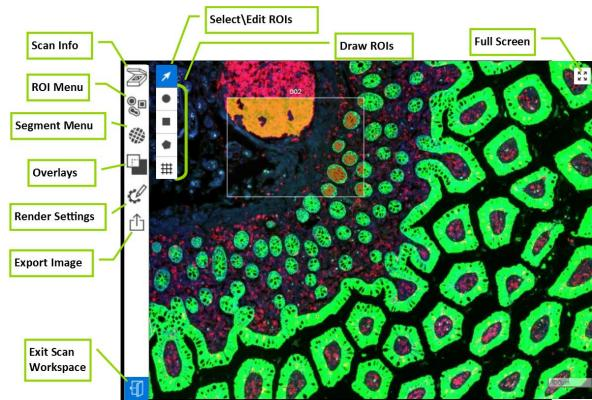

Figure 44: GeoMx DSP Scan Workspace with Exit button at lower left
1. Select the **Exit button** in the lower left of the Scan Workspace toolbar (see Figure 44) when ROI selection is complete.